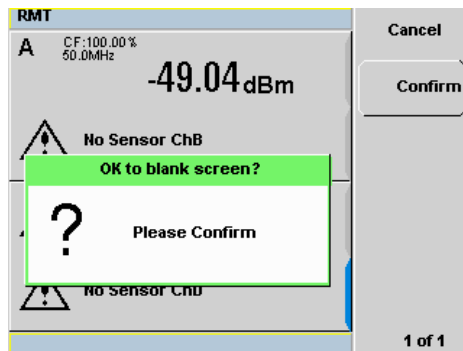

Figure 3-52 Password reconfirmation pop-up
- 8 When the correct password is successfully entered for the second time, you will be prompted for confirmation before the screen is blanked (see Figure 3-52). Press **Confirm**.